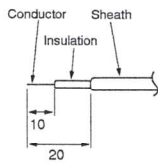
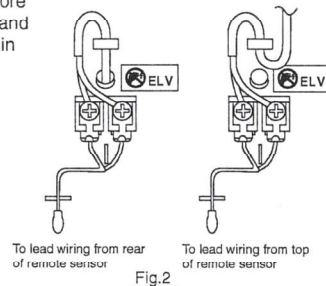

Fig.1
Fig.2
- (2) Connect the wires.
- Connect the 2-core cable to the terminal block in the lower case. Peel the sheath of the 2-core cable as shown in Fig.1, and correctly wire it as shown in Fig.2.